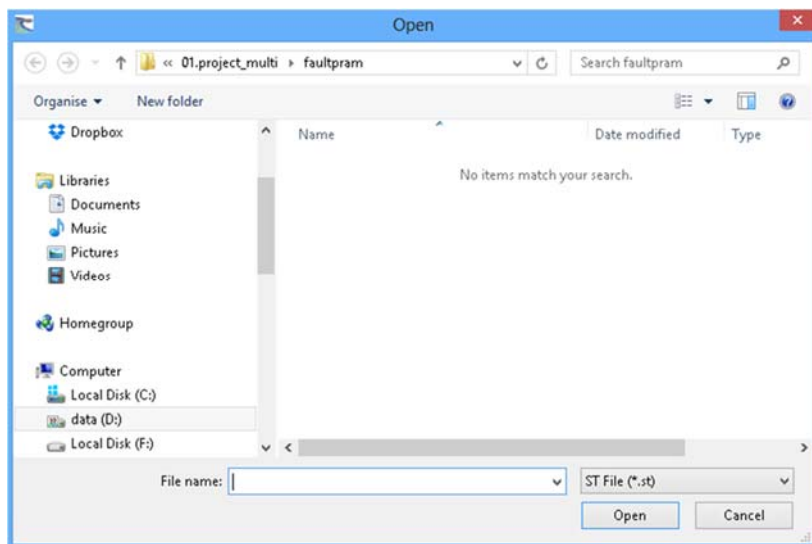
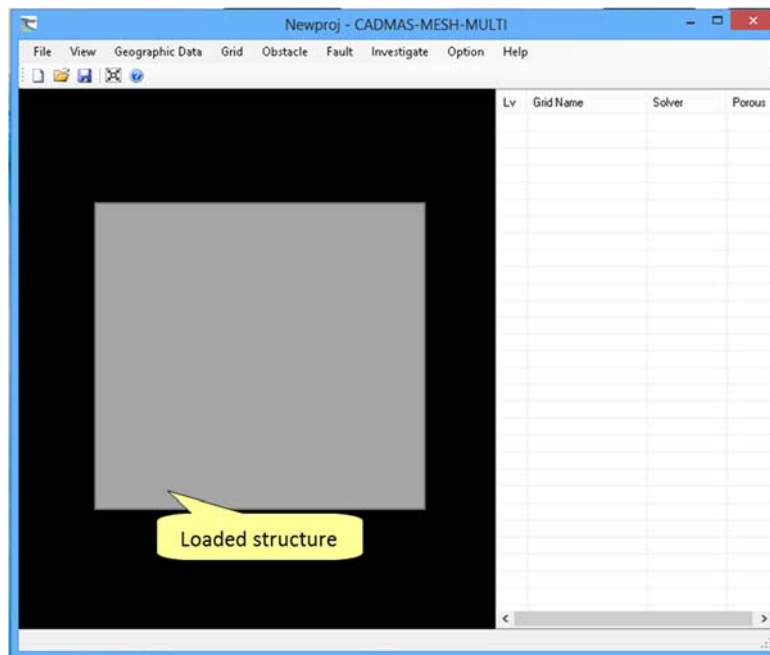

Figure 6 — Example dialog for selecting ST data
Figure 7 — Example display of a loaded structure
The dialog shown in Figure 6 will open. Select the ST data set you want to load and click the Open (O) button. This action will load the ST data set and display structures in gray. Figure 7 provides an example of a display of loaded structures.